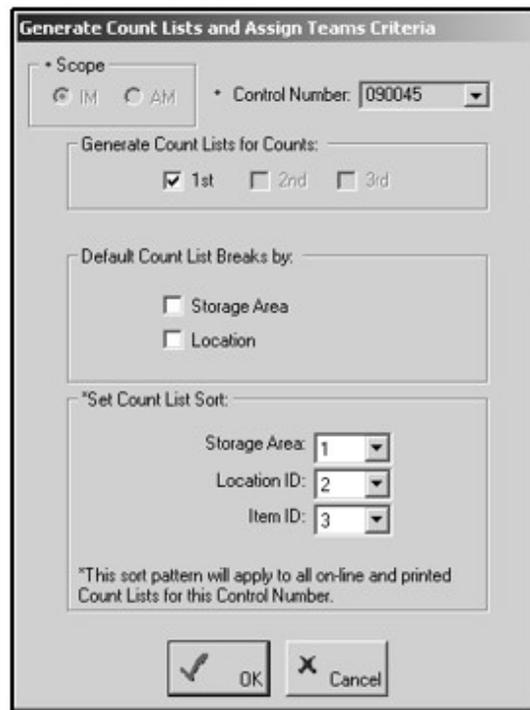
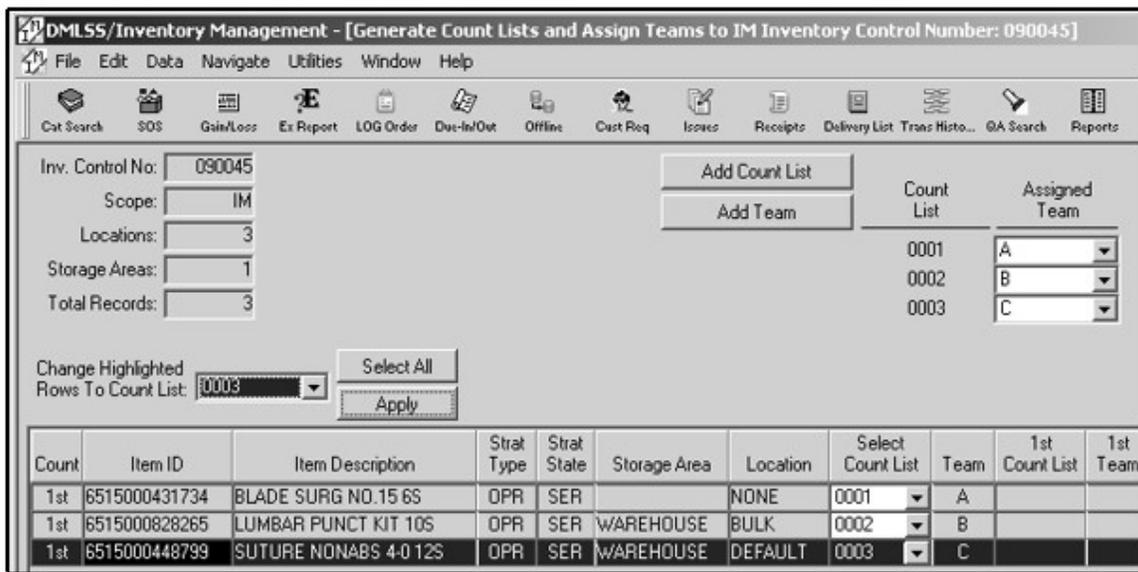

Figure 10. Generate Count Lists and Assign Teams Criteria Window
Figure 11. Generate Count Lists and Assign Teams to Inventory Management Inventory Control Number Window
(4) The following describes how to Generate Count Lists. DMLSS assigns an ICN upon initiating a physical inventory. Use the “Generate Count Lists and Assign Teams Criteria” (Figure 10) and “Generate Count Lists and Assign Teams to IM ICN” (Figure 11) screens to produce inventory count lists, assign those lists to count teams, and view the distribution of items by team or count list. DMLSS automatically creates one Count list and one Assigned team. Count teams and the number of lists required for inventory segment can be added. To add count list(s), select “Add Count List” and select “Add Team” to add team(s). Up to 26 count teams (Team A through Z) are available for an inventory. Assign a count list number and team to each line item in the list. This can be done line item by line item or multiple rows can be selected. Highlight rows and select count list from the dropdown. Select “Apply” and when all rows are assigned, select “Save”. DMLSS does not track User ID or names to a particular count team. If required, document this information on a letter and file with other completed inventory documentation. The “View Statistics” task is available from this window.